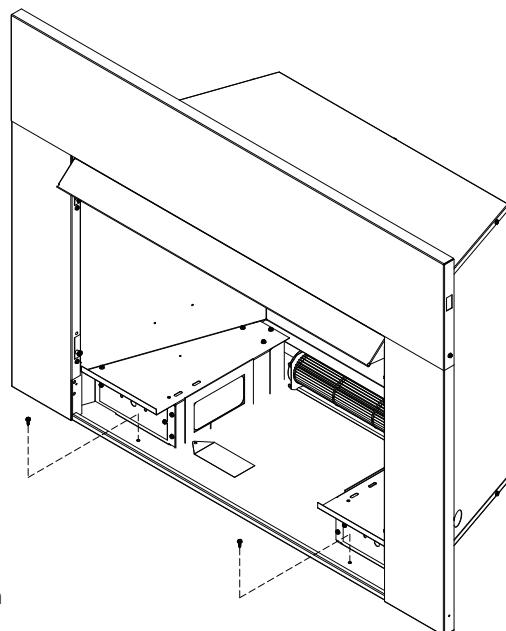

Figure 15. Secure Firebox to Floor or Hearth
3. Secure the firebox with two anchoring screws ($\frac{3}{16}$ " x $1\frac{1}{2}$ " length) supplied with the fireplace system. Figure 15.